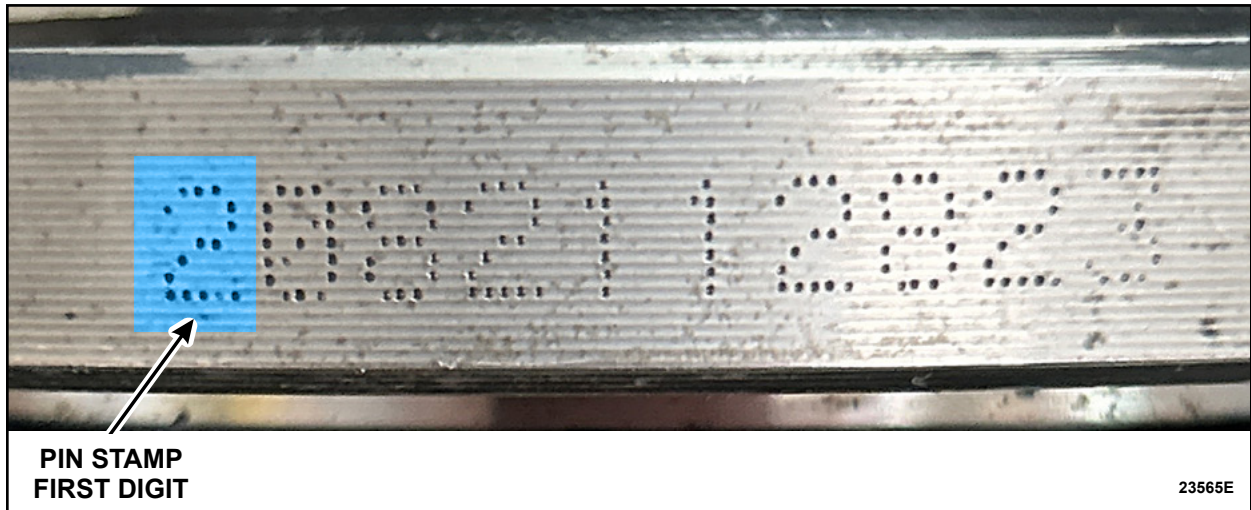

FIGURE 2
3. Locate the pin stamp on the LH rear axle flange. See Figure 2. Was the pin stamp missing?
4. Was the first digit on the pin stamp a 1 or 2? See Figure 2.